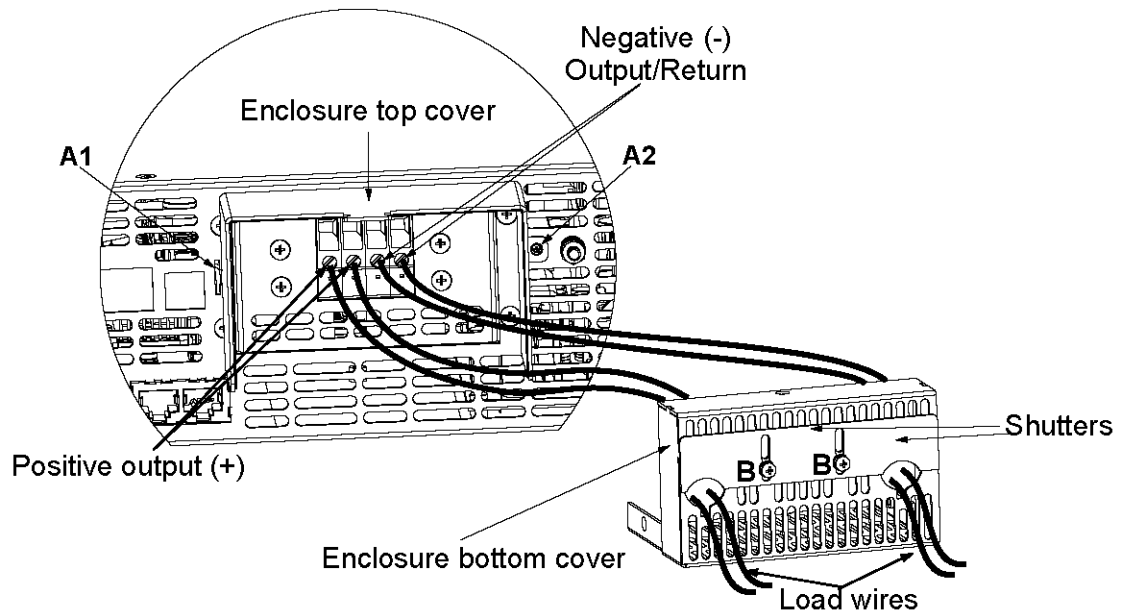

Fig. 3-9: Load Wires connection to the output connector
- Insert the stripped wires into enclosure bottom cover opening and then to the terminals, tighten the terminals screws securely (see fig. 3-9)
- Assemble the enclosure top cover to the chassis as shown in Fig. 3-9, using clamp "A1" and screw "A2", tighten screw "A2" (tightening torque: 4.8-5.3 Lb-inch).